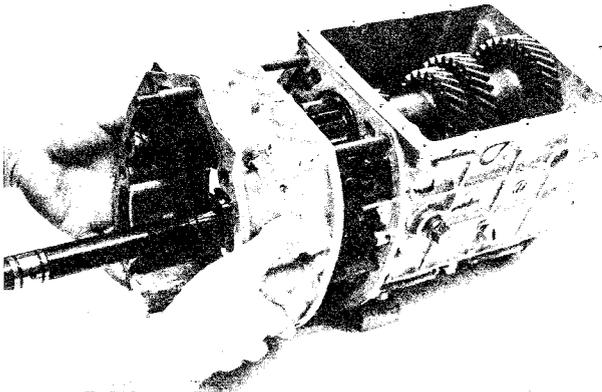

Fig. 7A-17 Removing intermediate housing
15. Remove the intermediate housing attaching bolt shown in Fig. 7A-16, and remove the intermediate housing from the transmission case.